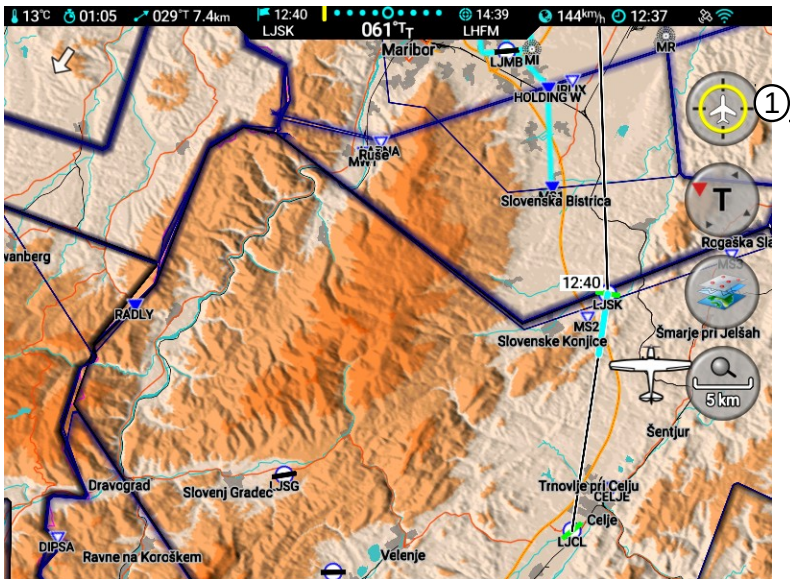

Figure 2.7: Illustration of the navigation screen in the pan mode.
A long-touch action on the map puts the map into pan mode. It also adds a home button symbol on the map and remove all unnecessary elements. Once the map is in the pan mode, it can be easily moved around. Figure 2.7 shows an example.
A touch on the home button, marked as ① on the Figure 2.7, brings back the standard navigation map.